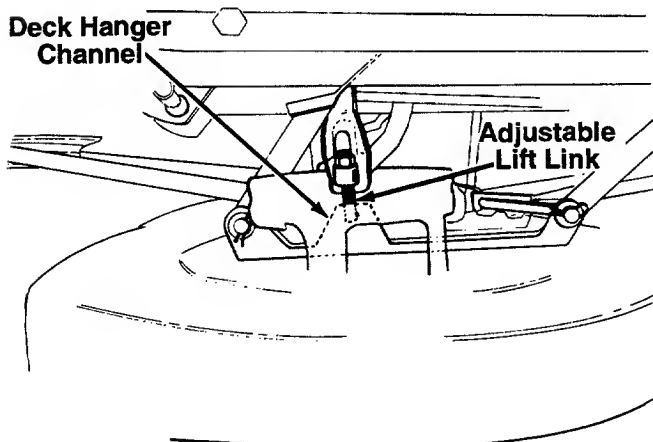

FIGURE 6.
2. Pull the adjustable lift link out of the deck hanger channel. See figure 6.